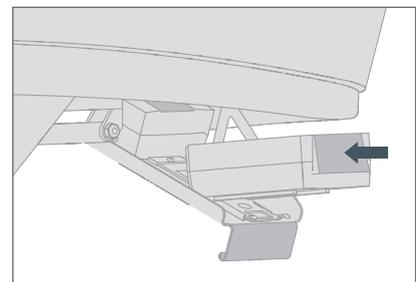

Figure 9. Attaching/removing battery to/from battery compartment
2. Squeeze the battery release lever to disengage the battery from the mount bracket and lift. The battery will disconnect from the control box (see figure 9).